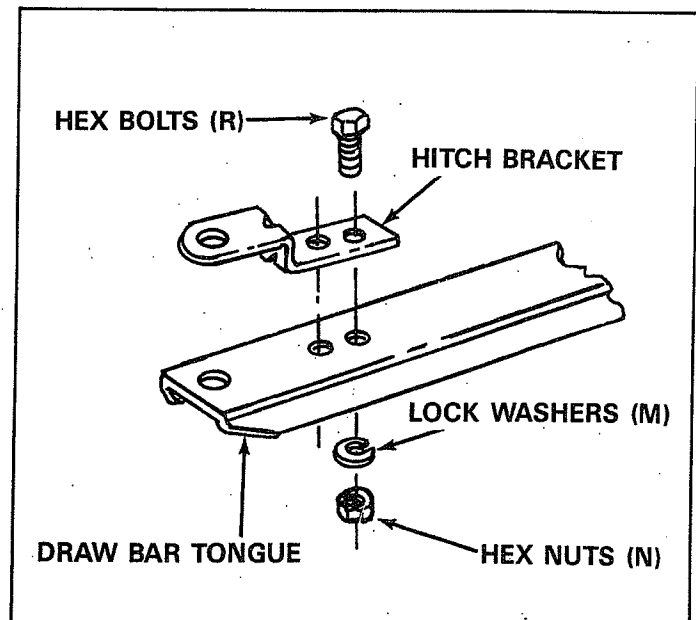

FIGURE 11
- Assemble hitch bracket to drawbar tongue, using 3/8" x 1" long hex bolts (R), lock washers (M) and hex nuts (N). See figure 11.